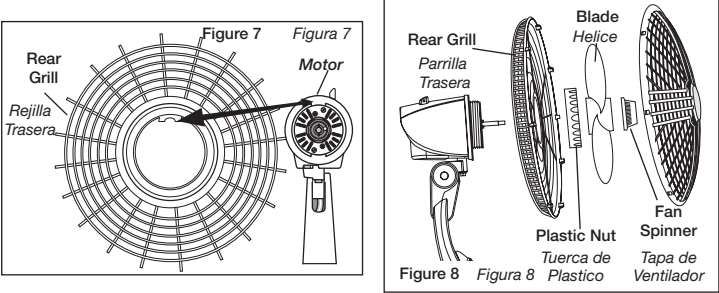

Figure 7: Rear Grill installation. Figure 8: Blade installation. Figure 8A: Blade hub assembly.
7. Tilt Head Assembly back. Put Rear Grill on Motor. (Figure 7)